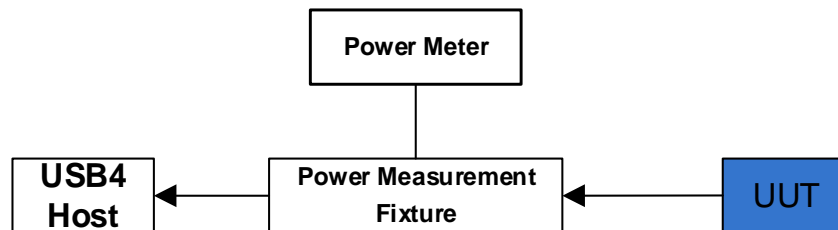

Figure 2-4: Device Power Consumption Measurement Topology
1. Connect a Power Measurement Fixture between UUT and USB4 host as shown in Figure 2-4.